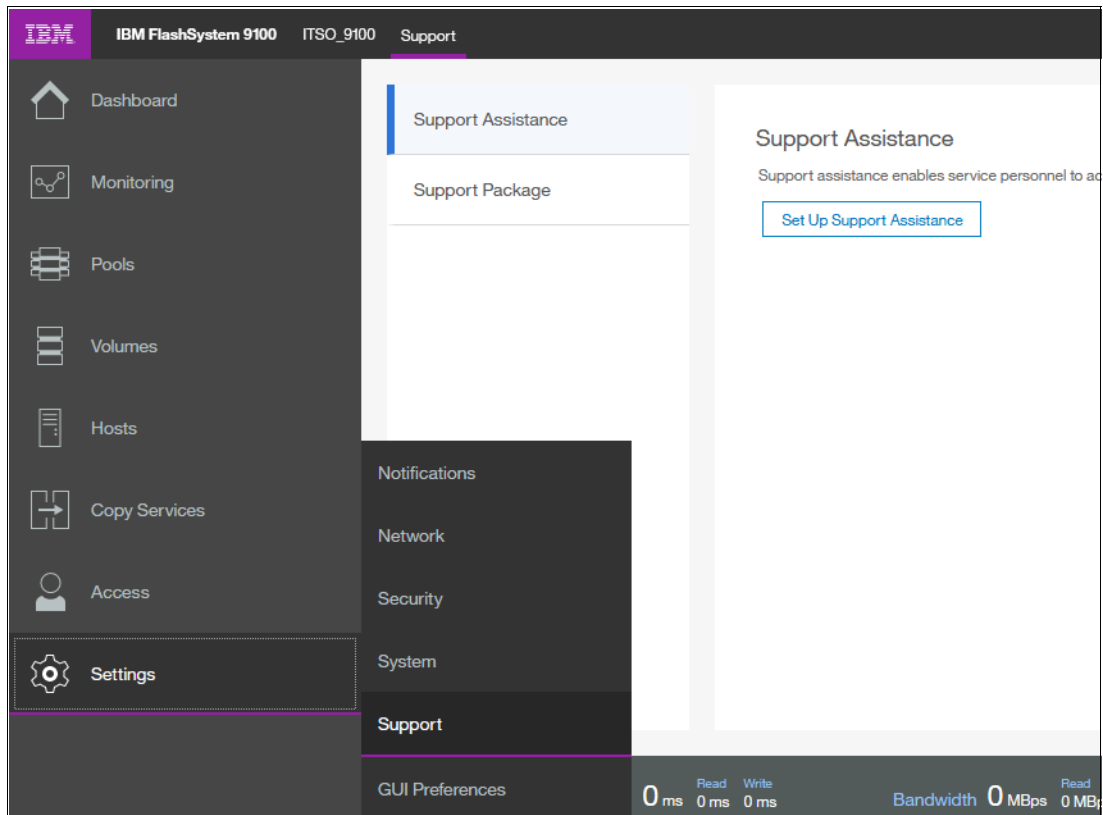

Figure 7-67 Remote Support Assistance menu
3. Click **Support Assistance**, as shown in Figure 7-67.